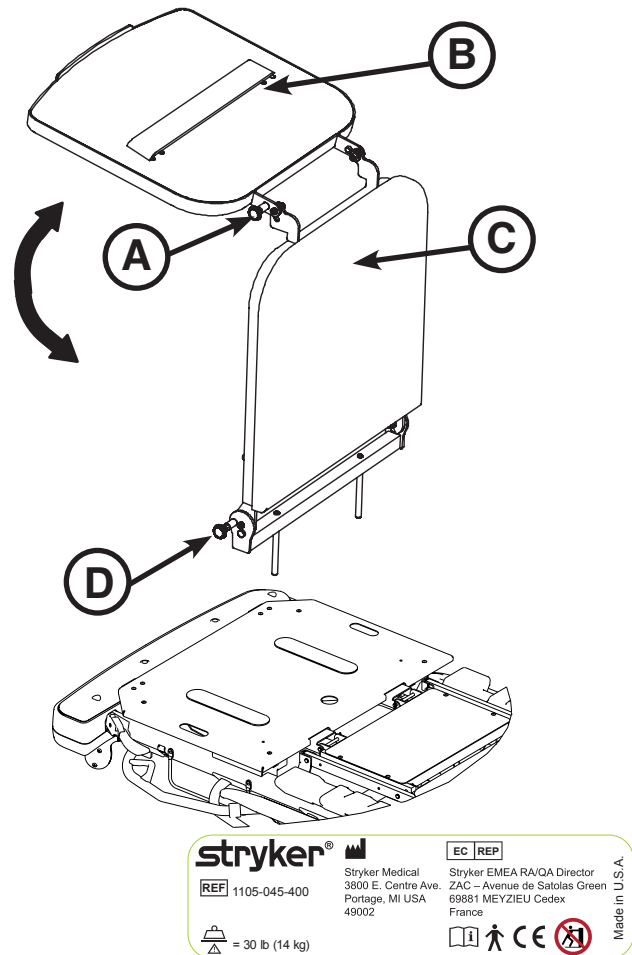

Figure 39: Foot Extension/Defibrillator Tray - Foot End
To use as a defibrillator tray, pull out the top knob (A) and pivot the tray (B) over the foot extension (C) until the tray extends flat over the foot end of the stretcher as shown in Figure 39.
To use as a foot extension, pull out knob (A) and pivot the defibrillator tray back until it locks against the foot extension (C). While holding onto the assembly, pull out the bottom knob (D) and lower the foot extension down until it is flat as shown in Figure 39.